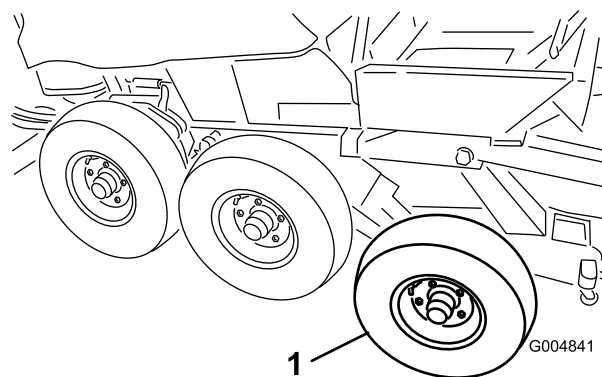

Figure 121
34. Remove the front and center tires from the winter assembly (Figure 121).